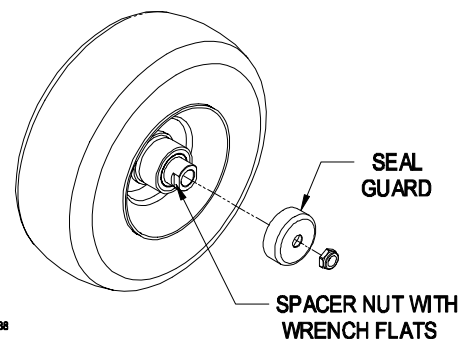

FIGURE 5
4.1.14 Lubricate the pivot bushings (locations shown in Figure 5):